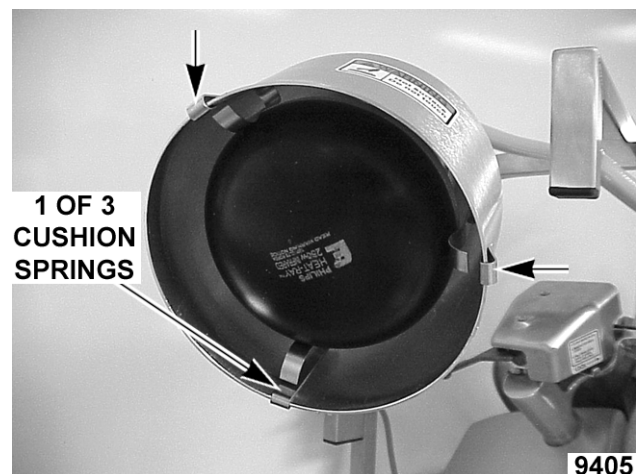

Fig. 3
10. Check to be sure the two 250 watt infrared bulbs are tight in the socket. Remove one Cushion Spring and hand tighten the bulb to be sure it is secure. Reinstall the Cushion Spring as shown in Fig. 3.